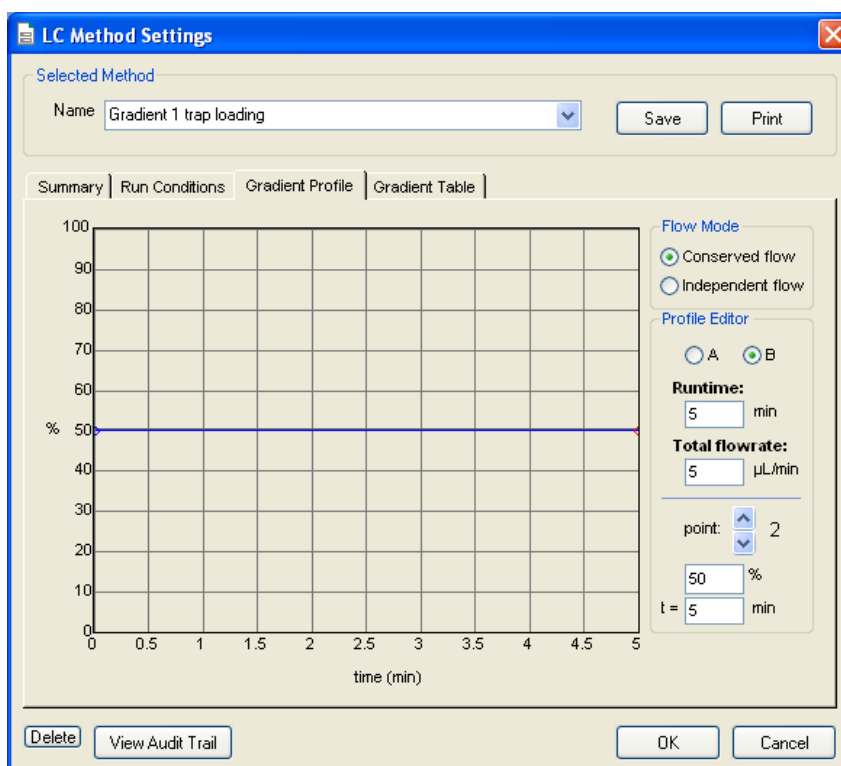

Figure 4-12 LC Method Settings Dialog—Gradient Profile Tab
10. Click the **Gradient Profile** tab (Figure 4-12).